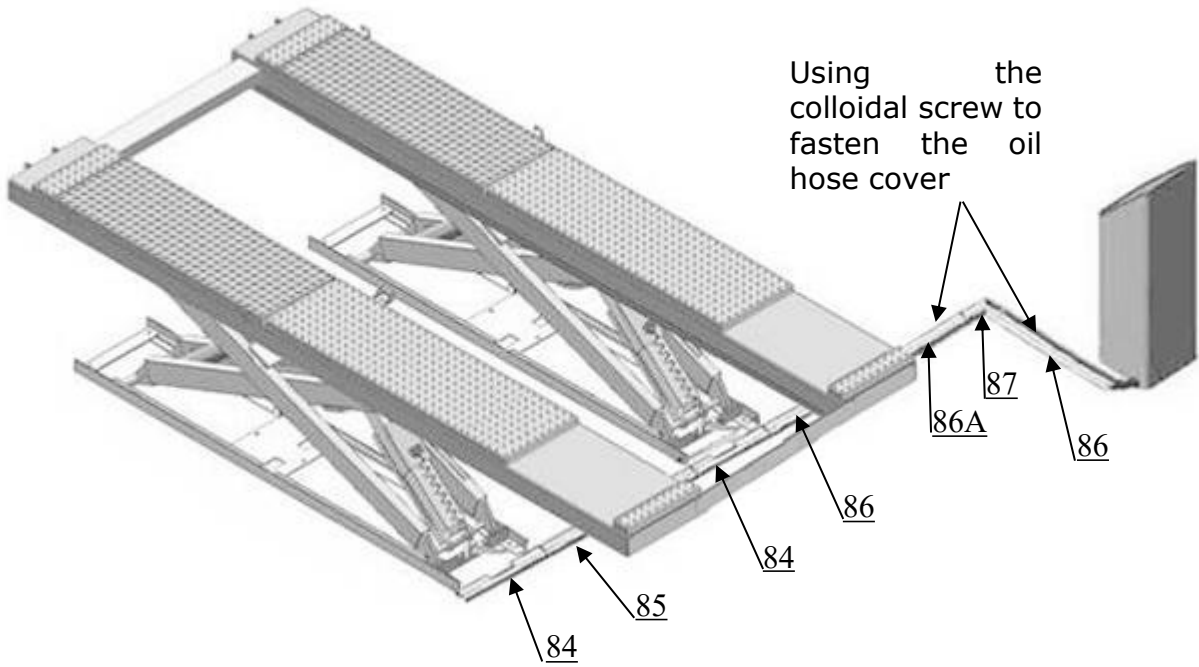

Fig. 25
1. Tidy up the oil hose and air line, cover the oil hose cover (See Fig. 25).